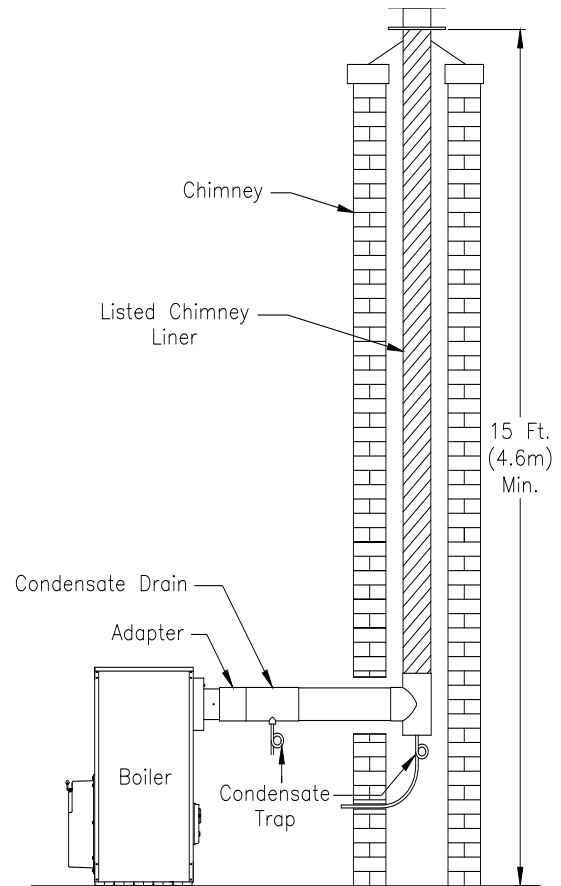

Figure 3a: Typical Category II/Negative Vent Pressure Chimney Venting with Rear Outlet
1. Overview: Vent pressure is negative and flue products are likely to condense in vent. Boiler operates with positive overfire pressure. See Figures 3a and 3b for typical chimney vent applications.